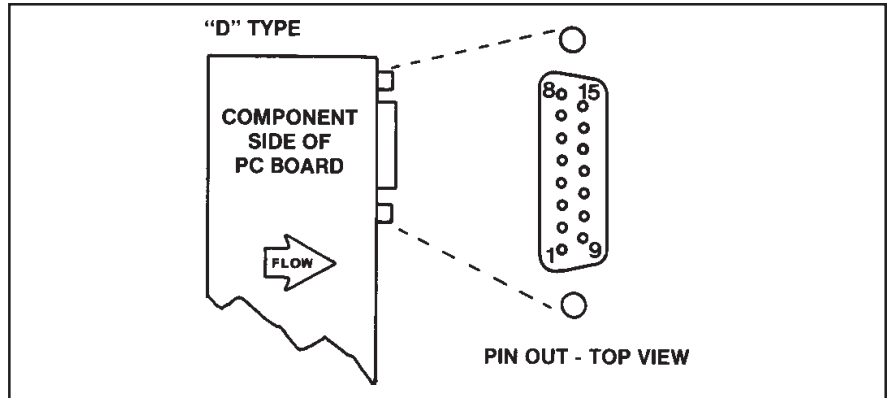

Figure 3-2 Model 5861E Calibration Connections
- b. Connect the DVM positive lead to the 0-5V signal output (pin 2 D-connector, refer to Figure 3-2) and the negative lead to circuit common (TP4). Adjust the zero potentiometer for an output of 0mV ±2mV.